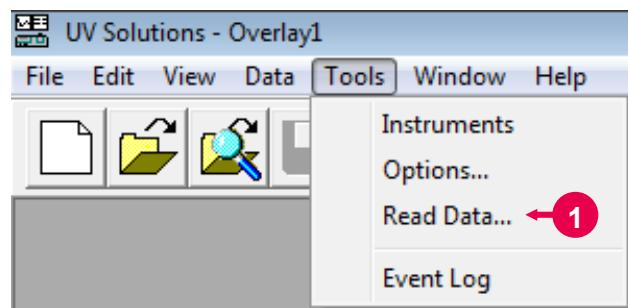

Fig. 5-52
- (1) Select the Read Data command from the Tools menu (refer to (1) in Fig. 5-52).